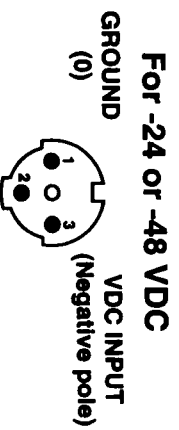
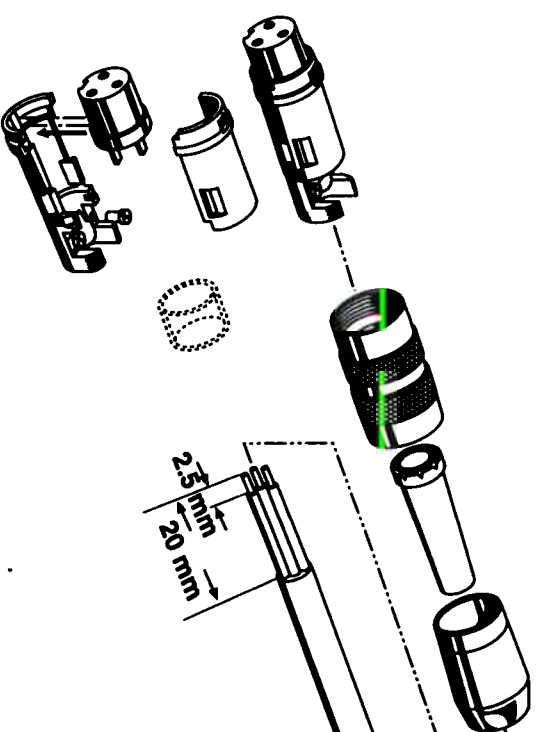

Figure B-2. Cable connector (female) voltage polarity for -24 or -48 VDC.
Figure B-4. Cable connector assembly.
- If not, connect the wires of your power-supply cable to the supplied cable connector, according to the voltage polarity shown in **Figures B-2** and **B-3**. Note that the solder side of the connector is shown. Refer to the illustration of the cable connector assembly (**Figure B-4**) for assistance.